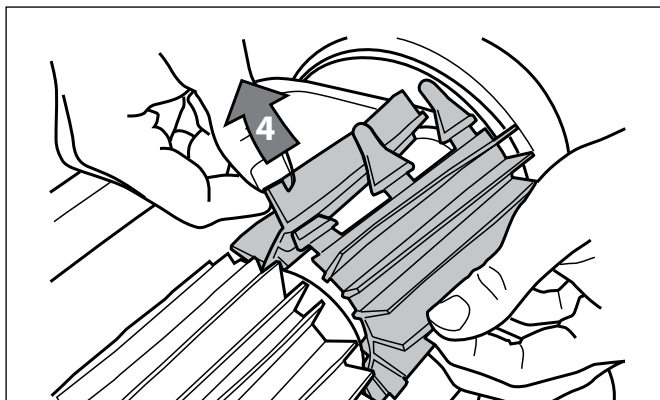

Figure 33. Pull Tabs Through Each Slot
- Thread each tab into the slot provided and gently feed it through until the heel comes out at the other side of the slot (Figure 33).